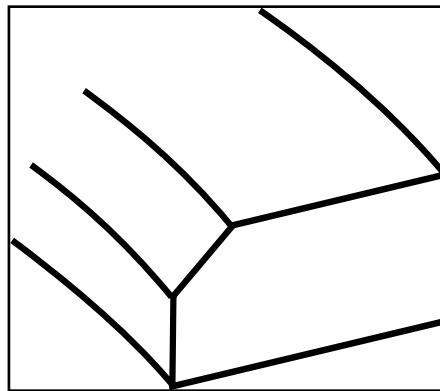

Figure 3
- If ring has no dot but does have inside diameter bevel, bevel goes to top of piston. **See Figure 3.**